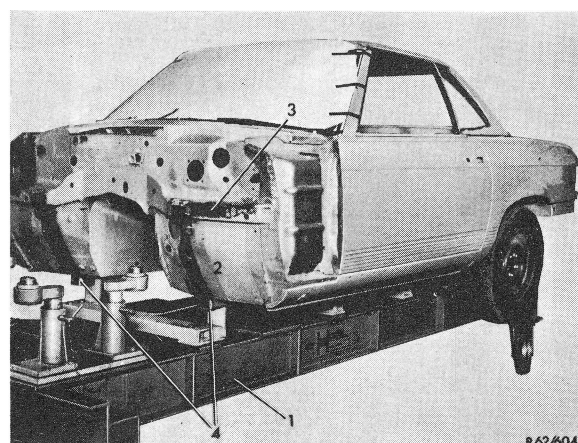

Fig. 1
4 Drill front end from front wall (2) with 8 mm dia. drill and separate from front wall reinforcement (3) and side member connecting pieces (4) with torch (Fig. 1).
6 Align all connecting points and grind bright (Fig. 1).
14 Position connecting points of front end in relation to front wall (2), as well as in relation to front wall reinforcement (3) and side member connecting pieces (4) (Fig. 1).